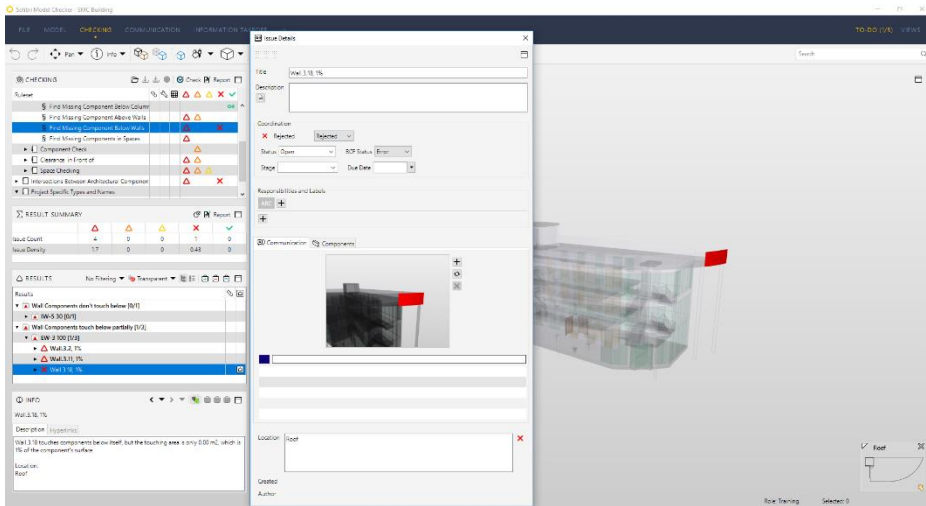

Figure 55: Issue Details window
(14) In the **Issue Details** view you can give the Issue a name in the **Title** field and describe it in the **Description** field (see Figure 55).